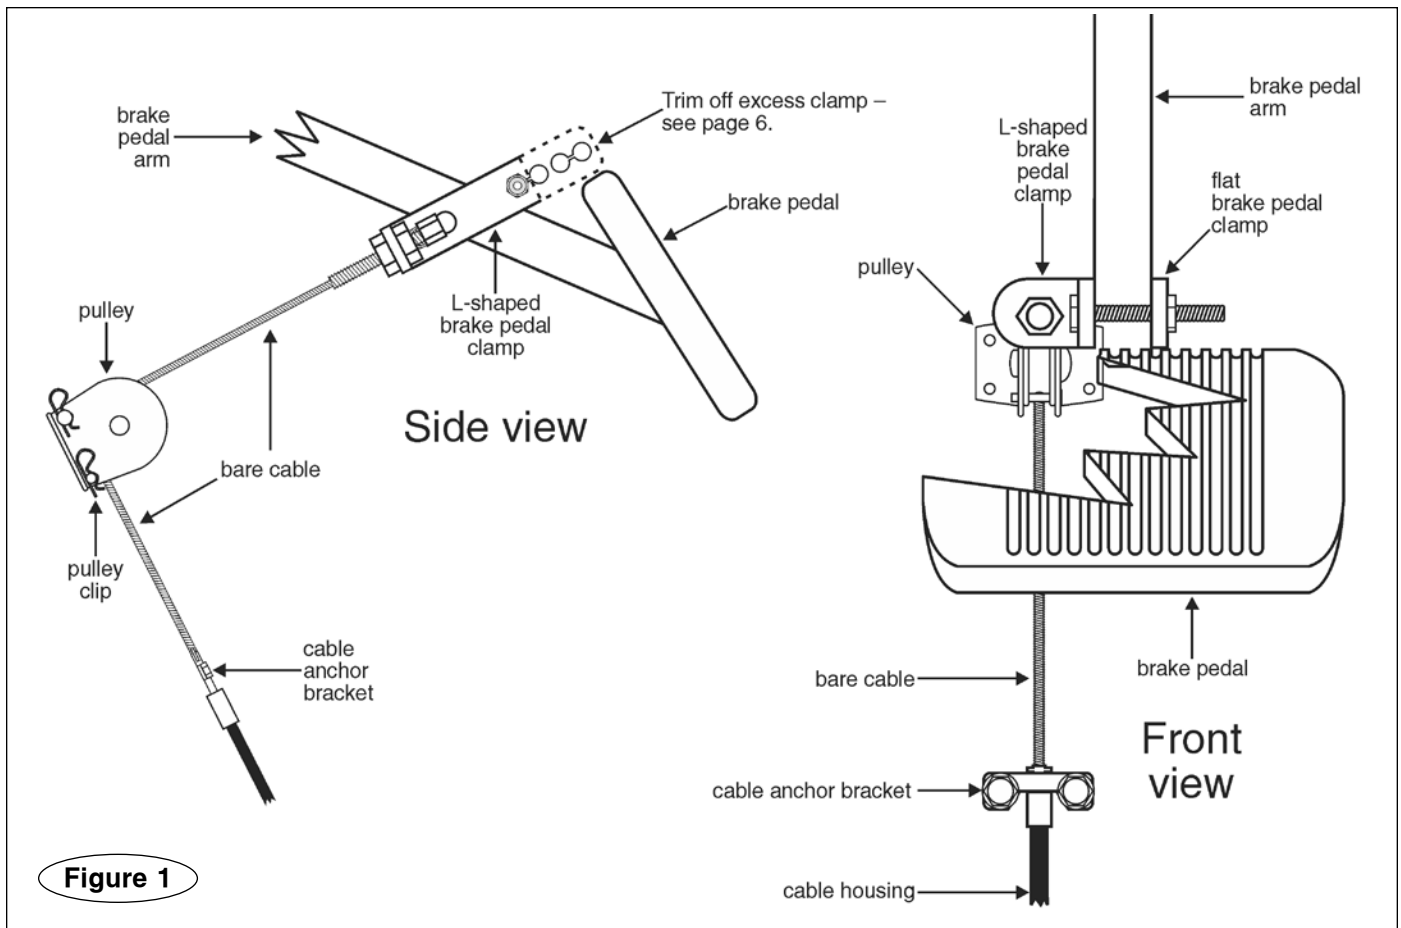

Figure 1
Position the pulley and both sections of the brake pedal clamp as shown in Figure 1, so that they are directly in line with each other.
- The pulley (Figure 1) must be positioned directly in line with the L-shaped brake pedal clamp so that the
Note: ideally, the pulley should be attached so that the cable runs parallel to the brake pedal arm, as shown in Figure 1. If the design of the passenger compartment or other constraints prohibit this, the pulley can also be mounted at an angle.
Based on where you will attach the pulley and brake pedal clamp, find the mounting location for the cable anchor bracket (Figure 1). This point must...